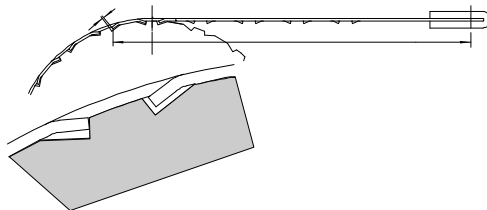

Fig. 6
- b) Right backlash (Fig.6) Band too short Tension too low